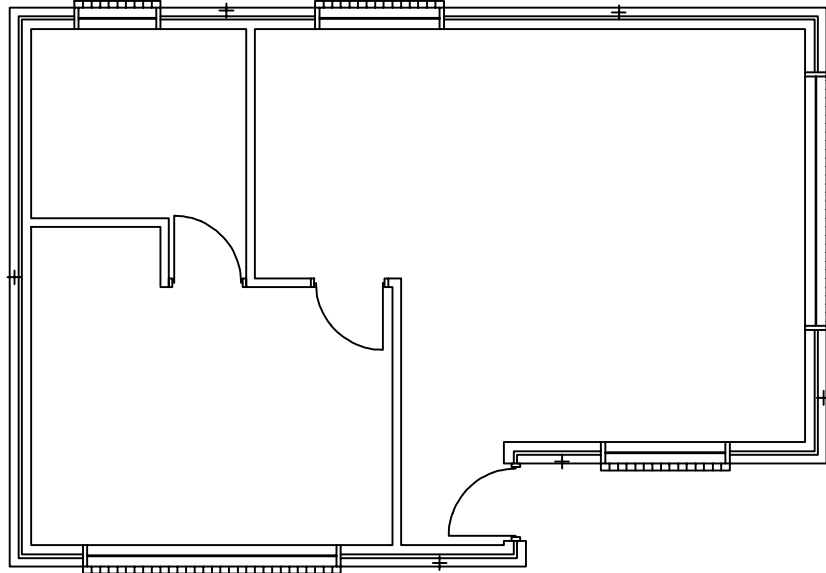

Figure 3 - Pick Points to Set Up the Boundaries for Hatching
- next, click the *Pick Points* button ... the dialogue box will temporarily disappear allowing you to pick points on the drawing within each of the areas to be cross-hatched ... while observing the prompt in the *Command Window*, pick the points marked in Figure 3 below noting that as you pick each one, AutoCAD marks the corresponding boundary ... you can cancel any one pick by typing **u** ↵ if you make a mistake ... when all boundaries have been identified, press ↵ to return to the dialogue box;